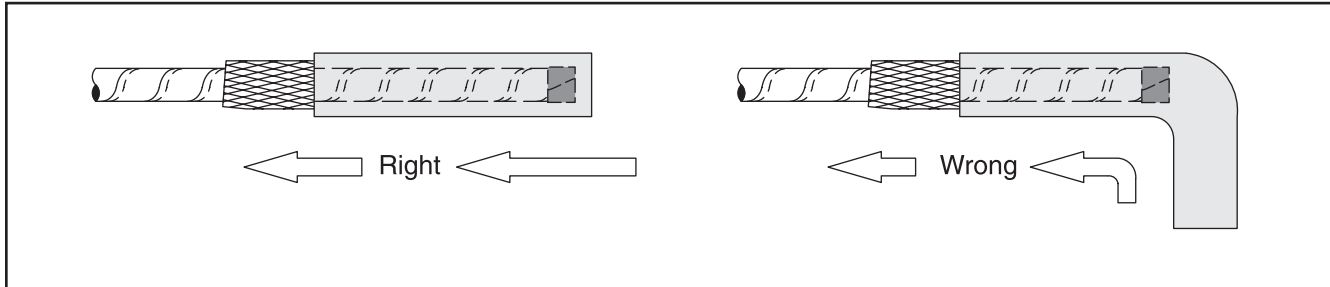

Figure 7
3.5 Guide one re-jacketing sleeve assembly over each cable phase leg (*Figure 7*).